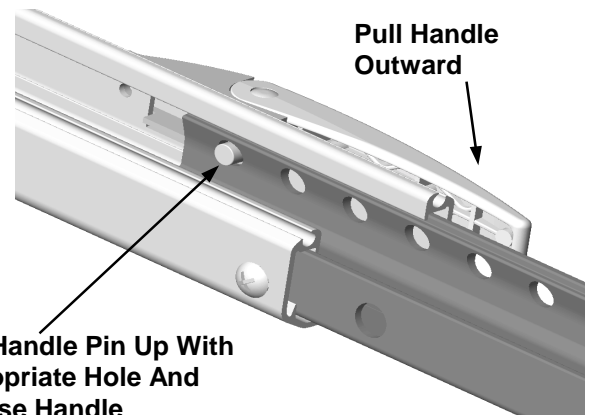

Figure 7
D. Pull Lift Handle outward (6A) and adjust the motorized arm assembly to the proper length using Table 1. Match the measurement taken in step 6 to the appropriate numbered hole in the adjustable leg where the handle pin will insert. Line pin of the handle up with the appropriate hole and release handle. (Figure 7) (right)